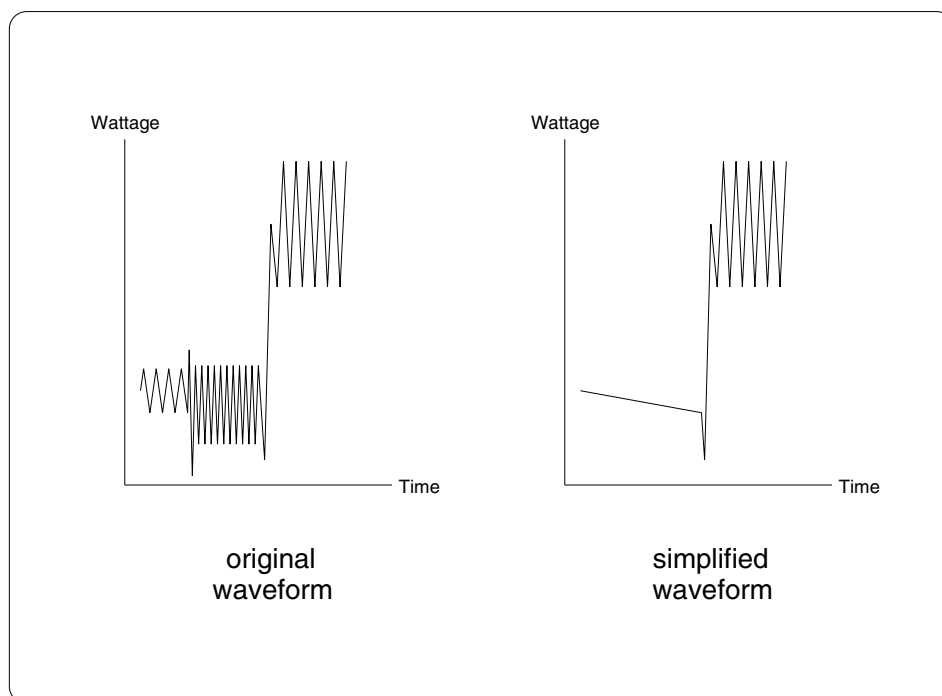

Figure 4-14: Simplifying power curves
4. Simplify duty cycles by using time average power. If you are dealing with a power curve similar to the left graph in Figure 4-14, there is no point in modeling all of the fluctuations in the first half of the curve. Instead, as shown in the figure, just use time average power for the first half of the waveform.